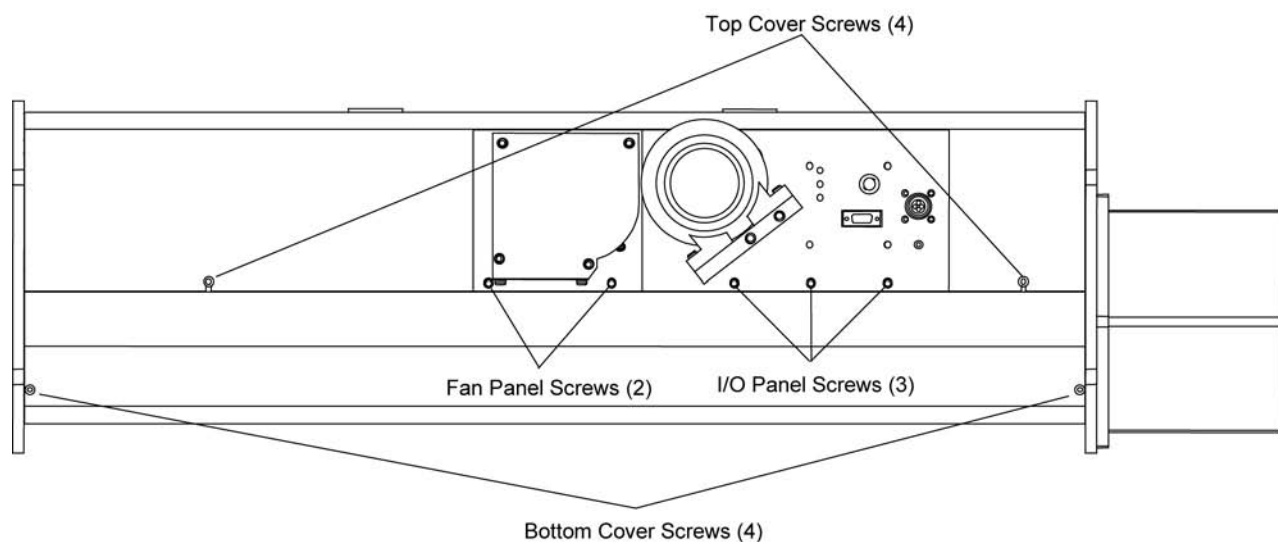

Figure 8-22
3. Loosen the four screws fastening the top cover of the Nephelometer and remove the cover (Figure 8-22).
- ❑ The more difficult method is to pry off the bottom cover without removing the I/O panel and the fan panel. Unscrew the four bottom cover screws (Figure 8-22). *Carefully* remove the bottom cover, working alternately at both ends. Pry the edges of the cover apart, and ease the cover away from the body of the Nephelometer.
- ❑ The easier method takes more time. After removing the I/O panel, the fan panel and the end plate, slide the bottom cover off the body of the instrument. Using Figure 8-22 as a reference: